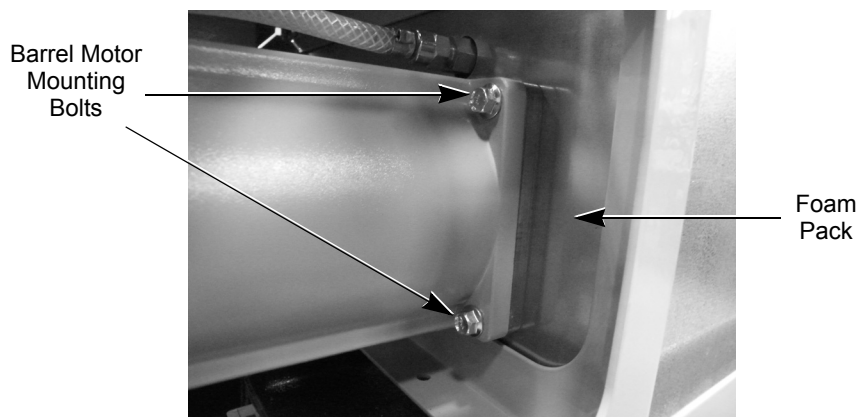

Figure 38. Side View of Motor Showing Two of the Four Mounting Bolts
The barrel motor does not require any special alignment when being replaced. It mounts on four (4) bolts. These bolts are screwed into threaded bosses in the foam pack barrel assembly, as shown in Figure 38. To replace a barrel motor, perform the procedure in Table 48.